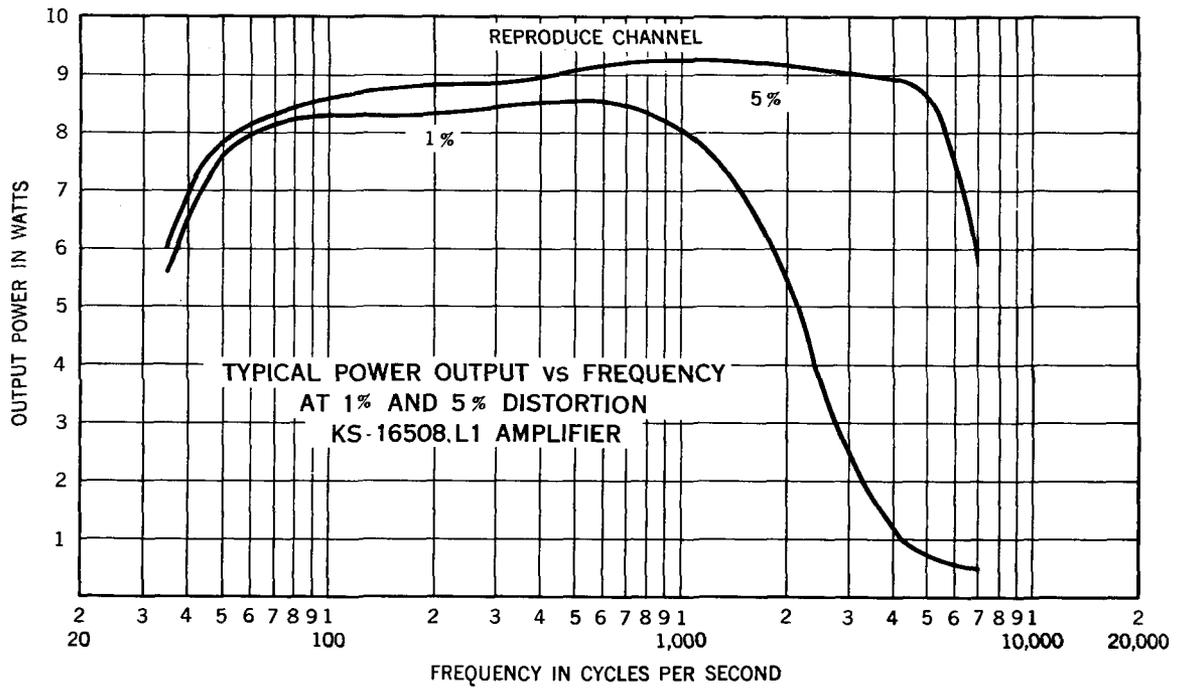

Fig. 5 - Output Power vs. Frequency
7.02 Fig. 5 shows the output power versus frequency characteristics of the reproduce channel for 1% and 5% distortion.